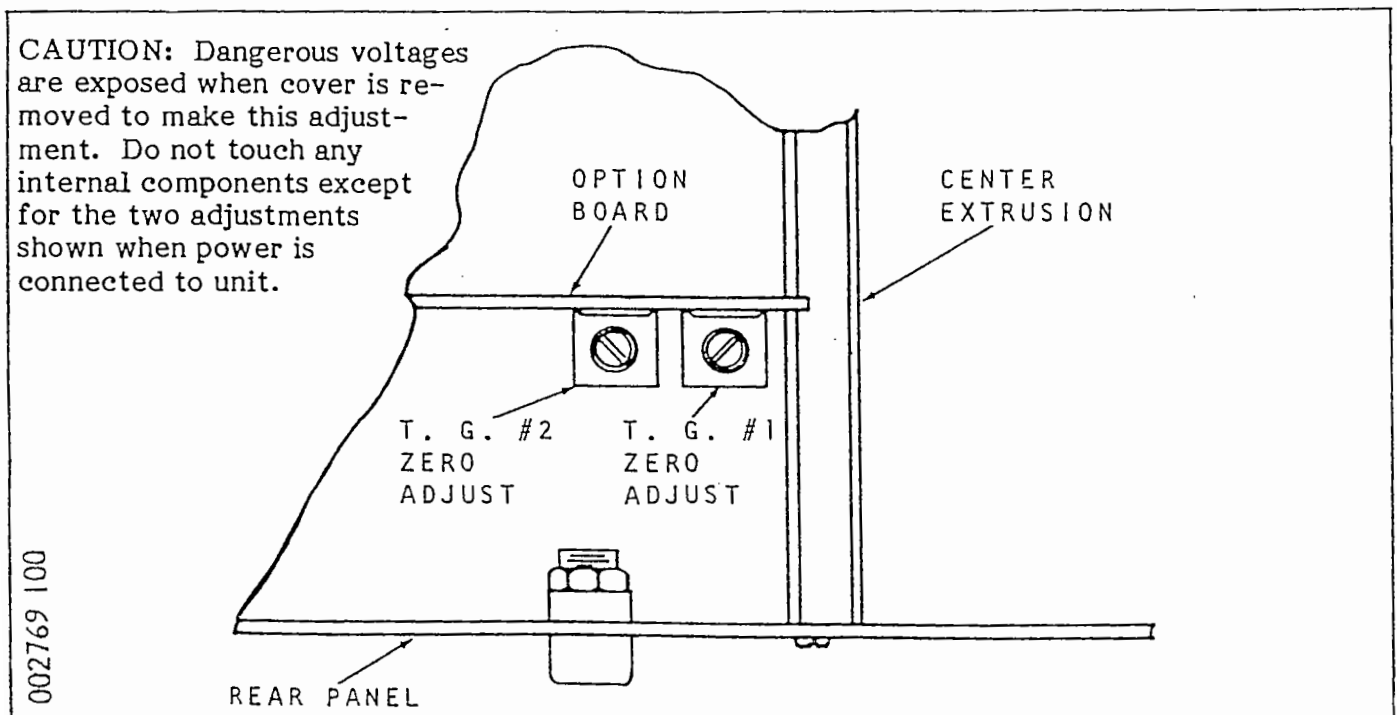

FIG. 3-6 LOCATION OF THERMO-GAUGE CALIBRATION POTENTIOMETERS
With the controller power turned off, connect the 8-pin connector labeled 1 to the Thermo-Gauge tube you wish to designate as 1. Connect the remaining 8-pin connector to tube 1 if present. The Thermo-Gauge switch above the Thermo-Gauge meter will now correspond to tubes 1 and 2. Plug the other cable end into the accessory connector on the rear panel. The Thermo-Gauge feature will now be operative whenever the power light is on. To make the Thermo-Gauge meter direct reading for your tubes, it is necessary to adjust two calibration controls on the vertical printed circuit board. Refer to Fig. 3-6.
2. Using care not to contact live circuits remove the top cover, and adjust the No. 1 potentiometer (Fig. 3-6) until the Thermo-Gauge meter reads  $10^{-3}$  Torr.
3. Place the Thermo-Gauge switch in position 2 and adjust the No. 2 potentiometer (Fig. 3-6) until the Thermo-Gauge meter reads  $10^{-3}$  Torr.